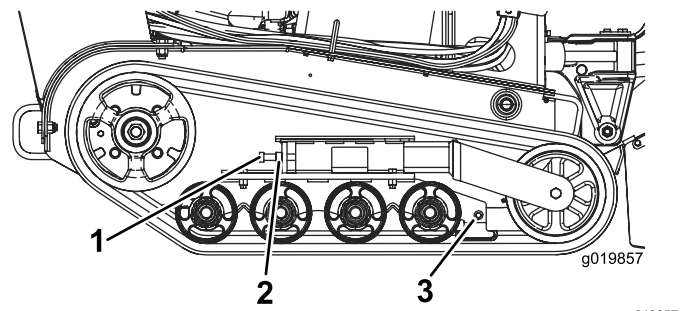

Figure 47
3. Loosen the jam nut on the track tensioning bolt and the clamp bolts on the tension arm (Figure 47).
4. Torque the tensioning bolt to 32.5 to 40 N·m (24 to 30 ft-lb) to tighten the track (Figure 47).
4. Back out the tensioning bolt and jam nut (Figure 47).